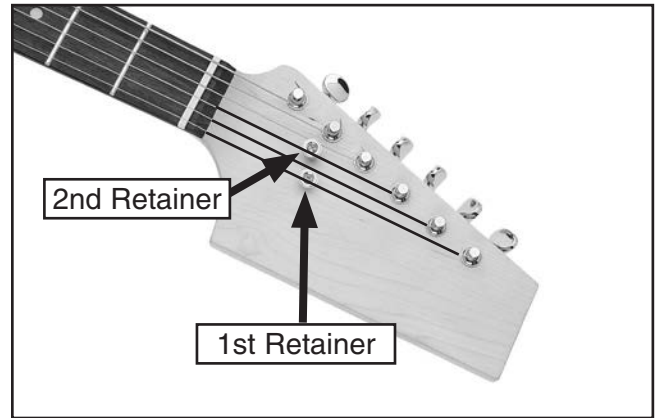

Figure 32. String retainer locations.
The string retainers mount between the 1st and 2nd strings and between the 3rd and 4th strings (**Figure 32**). String retainers are designed to hold the strings down against the nut to achieve correct tuning.
3. Slide a 2.5 x 14mm screw through the retainer and fasten it to the headstock (**Figure 32**).